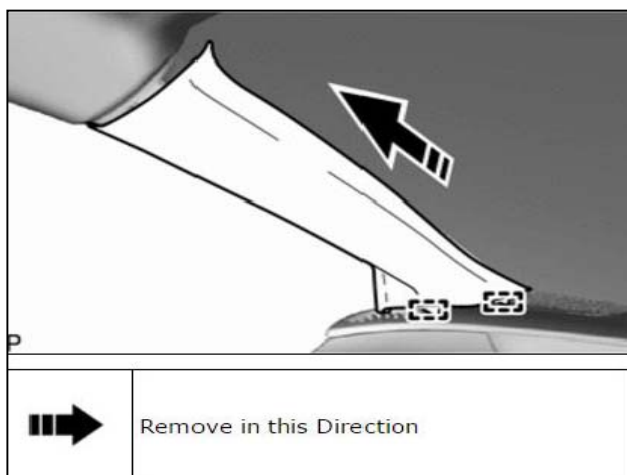

Figure 15
- d. Disengage the 2 guides to remove the front pillar garnish LH as shown in Figure 15.